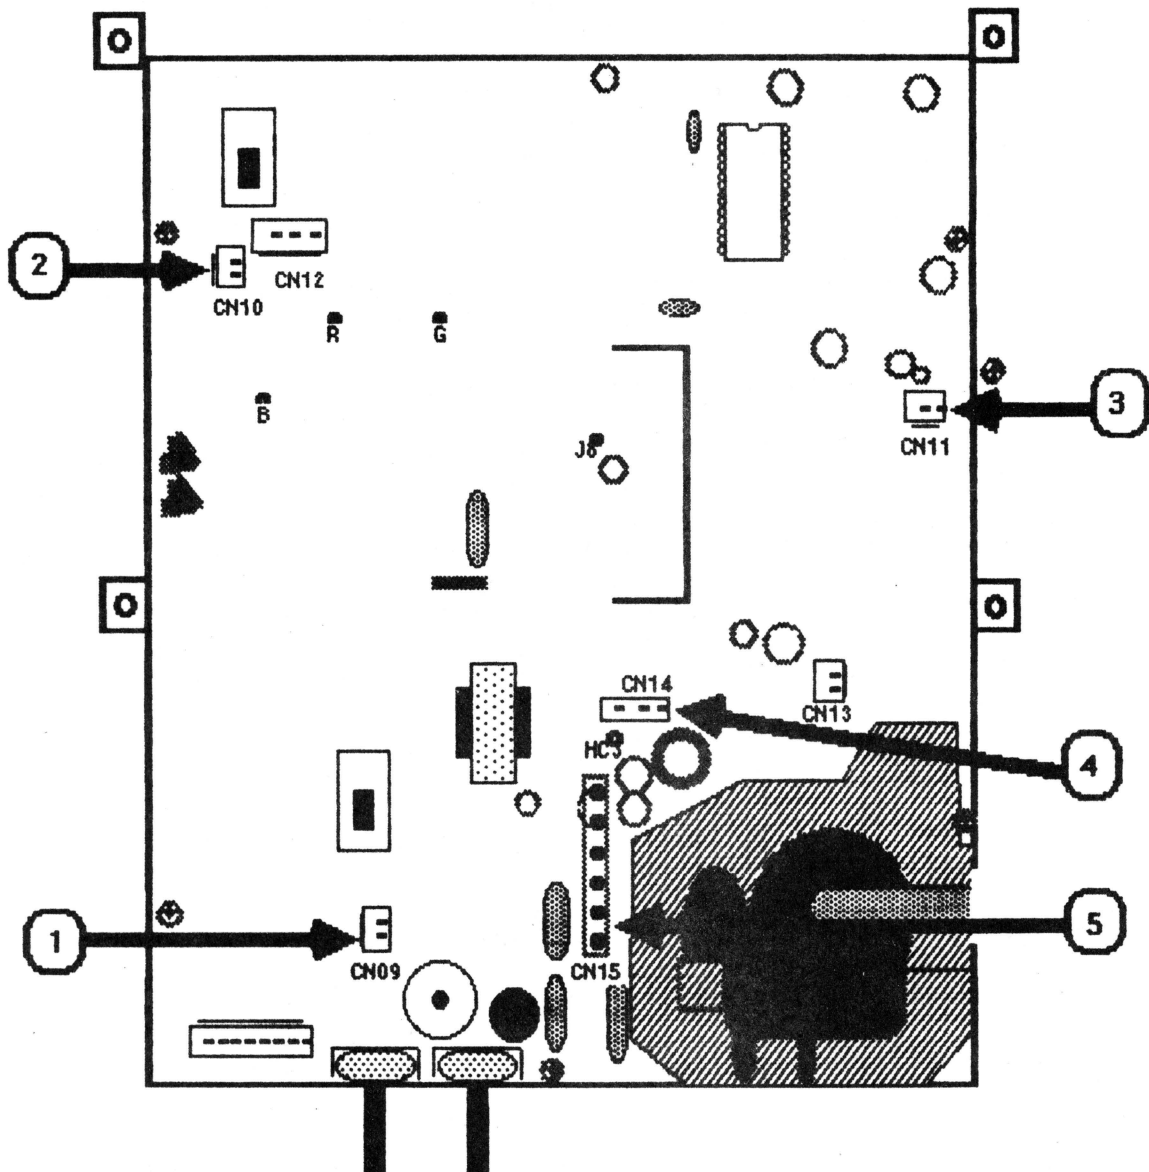

FIGURE 9
- a) CN09 (pink and green) -- Figure 9, #1
- b) CN10 (blue and black) -- Figure 9, #2
- c) CN11 (red and yellow) -- Figure 9, #3
- d) CN14 (red and black) -- Figure 9, #4
- e) CN15 (red, blue, green, and yellow) -- Figure 9, #5
1. Orient the logic board as it is shown in Figure 9.
4. Disconnect CN14 from the logic board. (Figure 9, #4.)